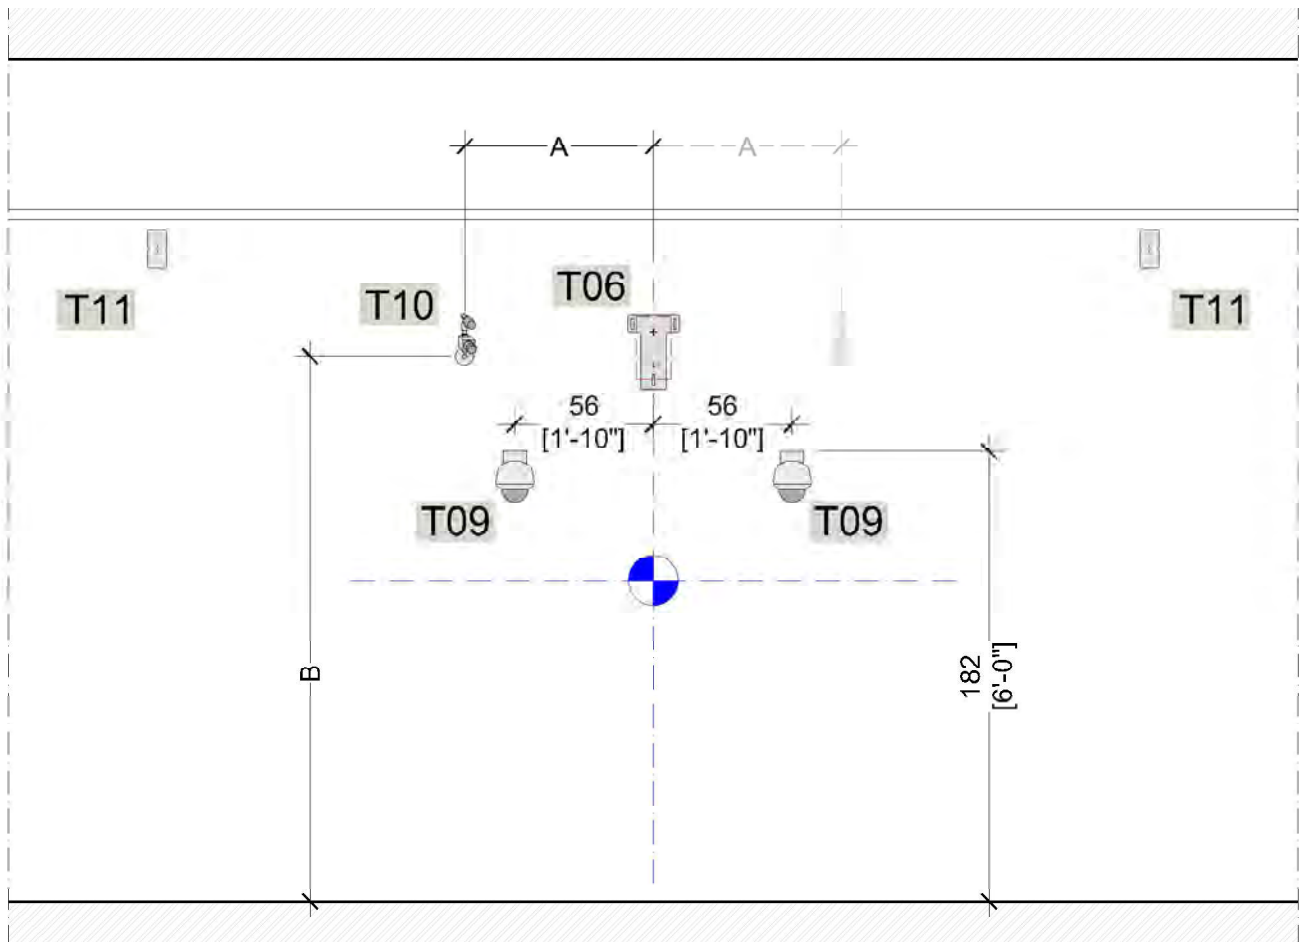

Figure 3-6 Treatment Room Sagittal Wall (Elevation)
A Closed-Circuit Television (CCTV) system is required for safe operation. It is critical to patient safety that the therapist always maintain visual contact with the patient, see Figure 3-6 and Section 4.5 for more information.
- See Figure 3-6 Treatment Room Sagittal Wall \(Elevation\) for mounting post location.
- See Figure 3-6 Treatment Room Sagittal Wall \(Elevation\)
- The primary MotionView CCTV (T09) two-camera system location shown in Figure 3-6 is MANDATORY for patient safety.
- The sagittal Laser Mounting Plate (T06) installation height is variable, 230cm [7'-6"] is the recommended height to avoid any obstructions with the laser alignment beam, see Figure 3-6. Consult with the laser manufacturer and customer on the desired elevation.